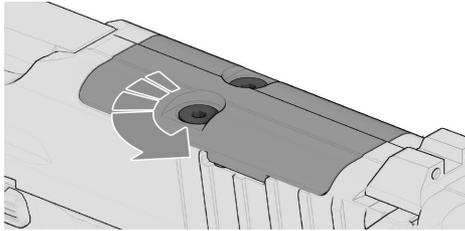

Figure 10 – Loosen screws
2. Loosen screws and remove (Fig. 10).